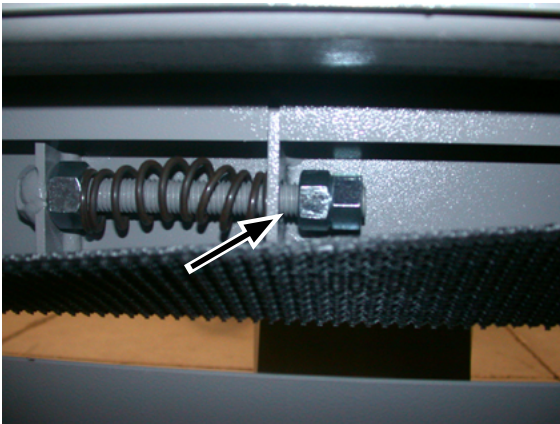

Figure 7-10: Proper gap between tensioning nut and fixed plate.
There are two sets of lower spreader belts on the unit which will stretch and wear over time. Belt stretching is automatically compensated for by spring loaded tension arms (Figure 7-10).
2. Locate the spring tension adjustment bolt at the center of the arm under the belt (Figure 7-10). Tighten the nut to increase the tension on the spring until the belt can be moved by hand.
8. Make sure there is a 1/4" gap between the tensioning nuts and the fixed retaining plate (Figure 7-10) to allow proper belt movement during operation.